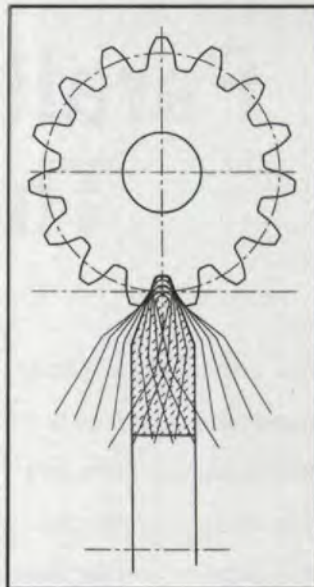

Fig. 3—Gear tooth form development by single-index generating.
- Single index generating involves grinding with a double-tapered wheel, which is dressed to the shape of a rack tooth (see Figure 3). The wheel is reciprocated as one tooth space is ground, while the work table feeds back and forth slowly at right angles to the gear's helix angle. After one tooth space is ground, the work indexes, the next space is ground, etc. Very large gears are usually ground using this method.